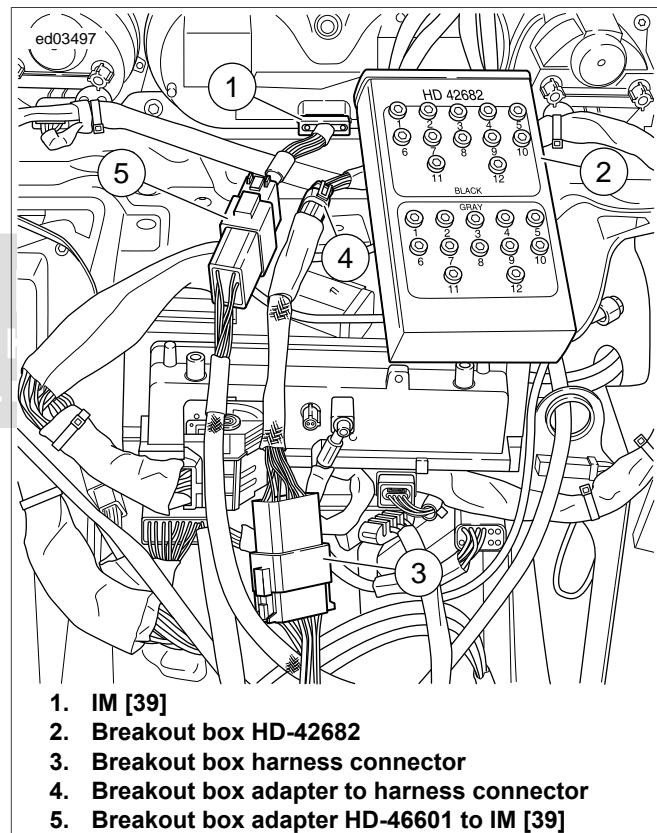

Figure 1-7. Breakout Box Connection
2. See Figure 1-7. Press latch and disconnect [39B].